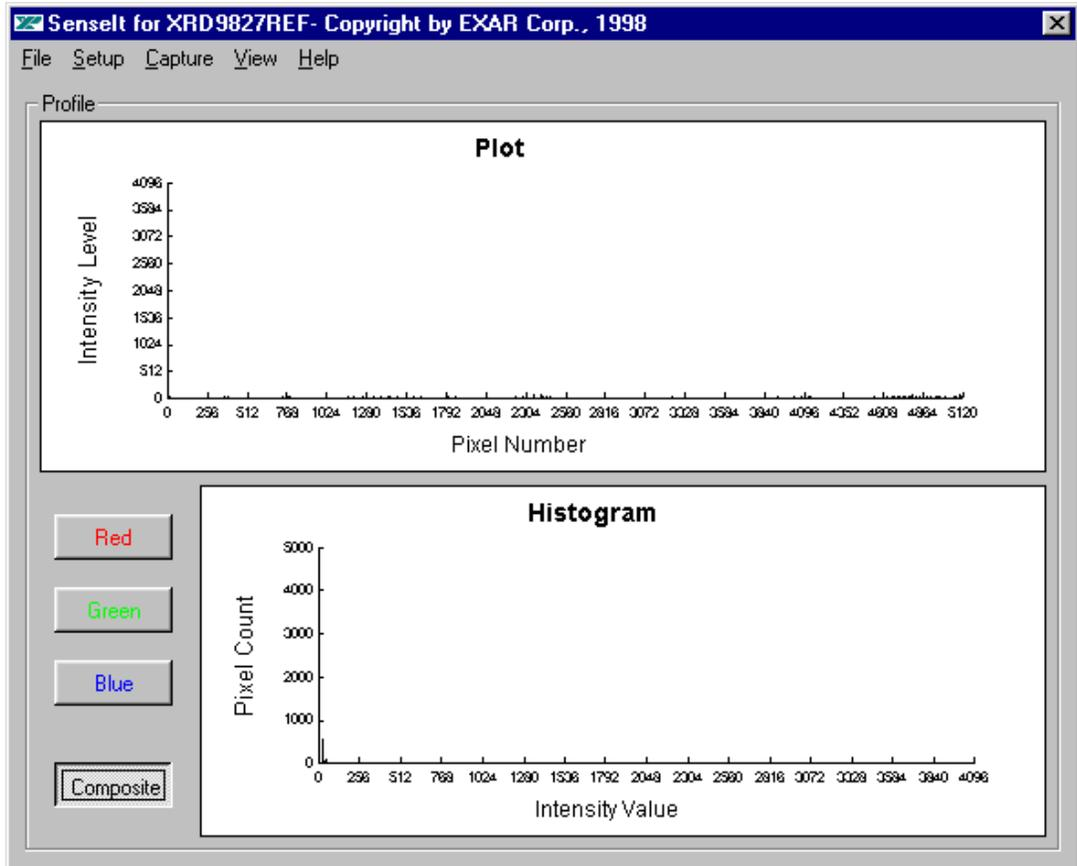

Figure 5. Non-calibrated Black Target Scan (Output Codes Are Below Zero)
6. Pick the black target out from the kit and put it on a flat area. Place the XRD9827TREF on top of the black target with the CIS sensor facing downwards. Set the dip switches to [110 00001100] and then push the Serial Port button. This configures the XRD9827 to operate in a AC Coupled CCD mode since output signal of TOSHIBA CIS is similar to CCD waveform. From the CAPTURE menu select SNAP SHOT (or simply press CTRL and B buttons simultaneously) for a single line scan of the black target. A typical result of a black target scan is shown in Figure 5.